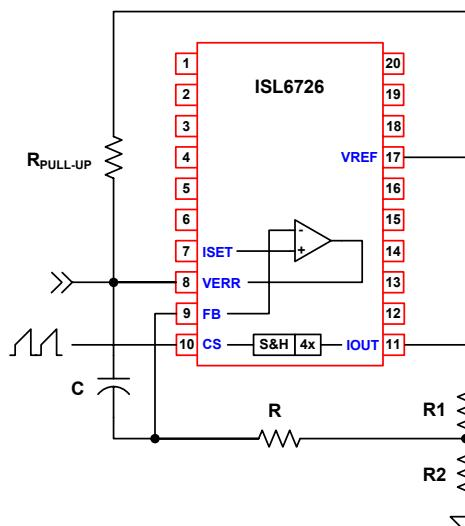

FIGURE 13. AVERAGE CURRENT CONFIGURATION
IOUT may be used with the available error amplifier (EA) of the ISL6726 as shown in Figure 13. The error amplifier is typically configured as an integrator. As shown in Figure 13, IOUT is attenuated by resistors R₁ and R₂ so that the average current limit threshold can be set independently of the peak current limit threshold. The integrator bandwidth is determined by R and C. The current error amplifier is similar to the voltage EA found in most PWM controllers, except it cannot source current. VERR requires an external pull-up resistor.